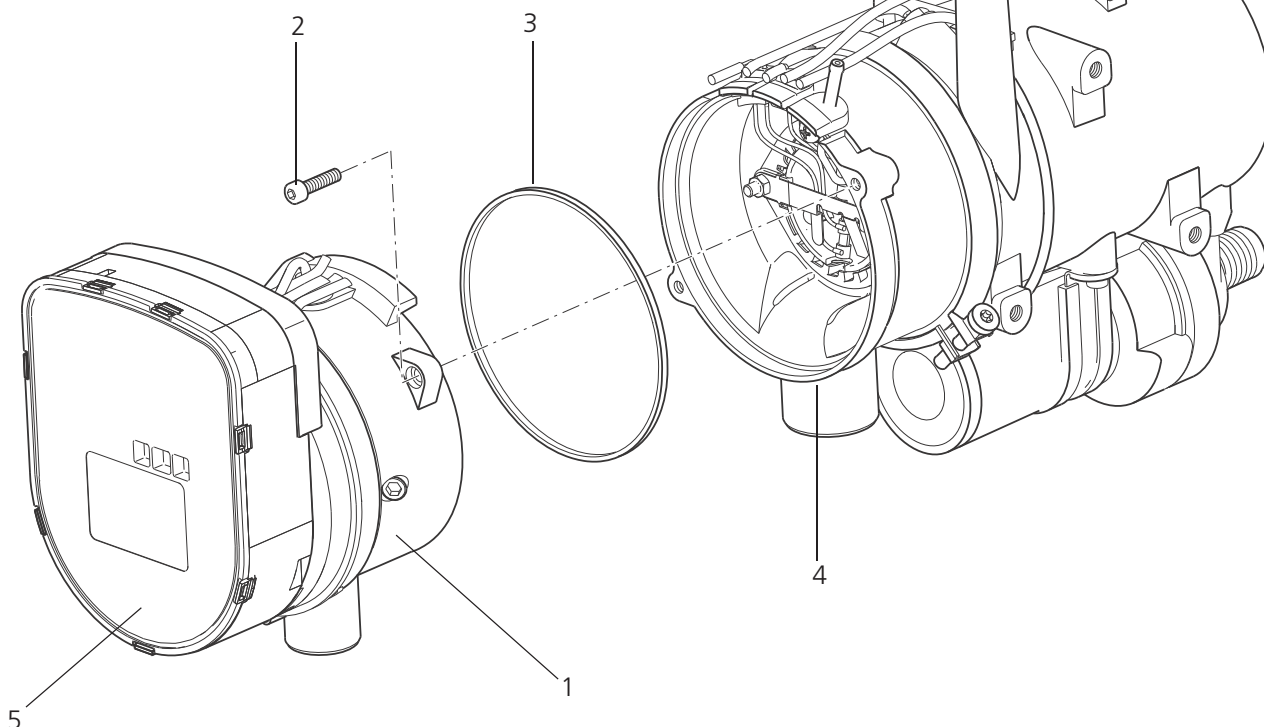

Figure 27: Replacing the combustion air fan
2. Remove the screws (2, Fig. 27).
3. Pull the combustion air fan (1) off the burner head (4) and remove together with the shaped sealing ring (3).
**NOTE:** Insert the shaped seal (3, Fig. 27) correctly and grease it (e.g. with Vaseline). Take care not to squash it.
1. Fit the new shaped sealing ring (3) onto the combustion air fan (1). Bring the fan into the assembly position and secure it with screws (2).
2. Tighten the screws (2) to 3 Nm (26.5 lb-in)  $\pm 10\%$ .
- 2 Screw (2)